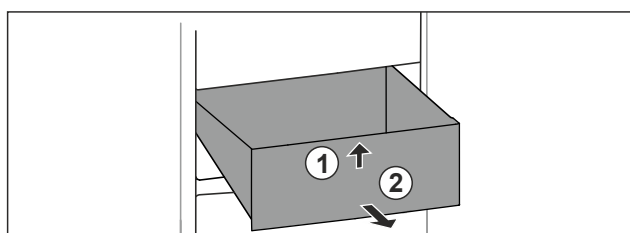

Fig. 135
- ▶ Lift up drawer at the front. Fig. 135 (1).
- ▶ Remove drawer to the front. Fig. 135 (2).